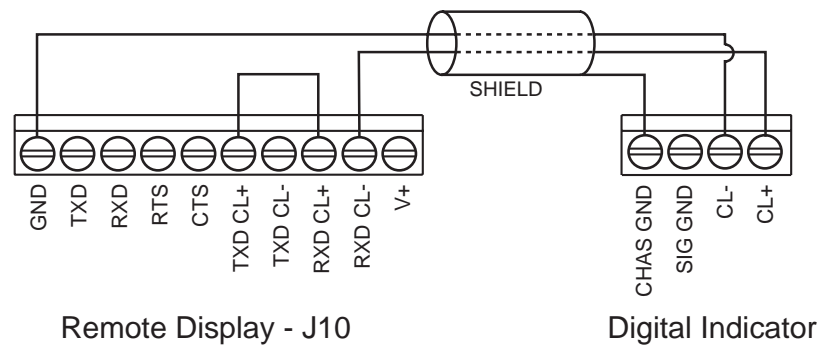

Figure 3-4. 20 mA Current Loop Active Mode
- 6b. **20 mA CL:** 20 mA Current Loop can be connected in two Active Modes and one Passive Mode. Figure 3-4 shows one type of Active Mode connection. When using 20 mA Current Loop Active Mode, connect a jumper wire as shown in Figure 3-4. A short piece of communication cable inner wire makes a good jumper.